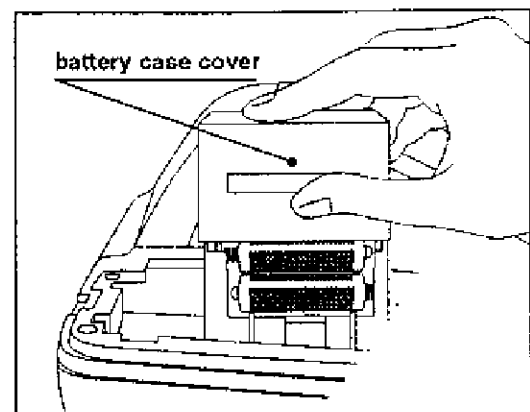

Fig.2
5. Replace the battery case cover.(See. Fig 2)